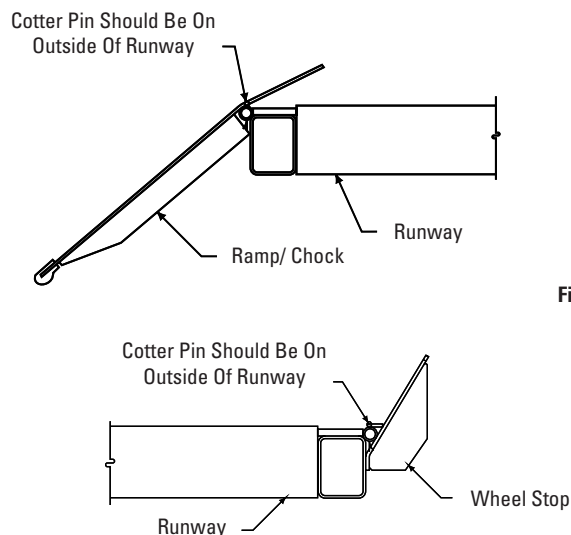

Fig. 29
- 20. Assemble** ramp/chocks and wheel stops to runways using hinge pins and cotter pins. Ramp chocks go on rear and wheel stops go on front of runway, Fig. 29.